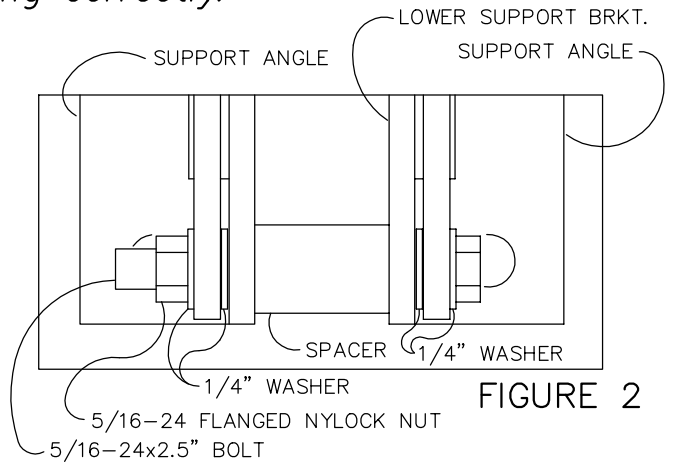

FIGURE 2
2. As shown in Figure 2, insert 5/16–24x2.5” bolt thru support angles and lower support bracket adding spacer and small washers.